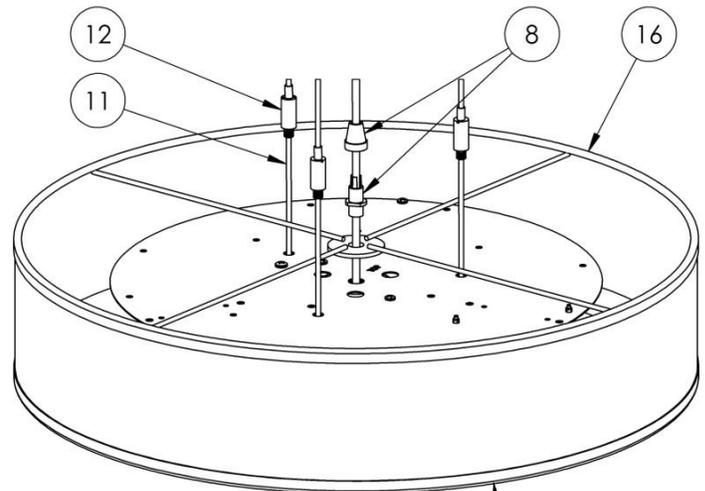

FIG 3
- Feed the three aircraft cables (11) to the connectors (12) that are mounted on the pan. Insert the cable by pressing the “Spring Pin” (12) (Fig. 3) downward and holding until it comes out at the other end. Repeat these steps for the other cables.
D. Line up the two holes in the canopy (6) with the two screws in the round mounting bracket (2). Secure fixture to screws (1) with the two thumb ball nuts (7) provided.
4. Adjusting Fixture Height (Fig 3)
A. Adjust the aircraft cables up and down by pressing the “Spring Pin” (12) downward and holding until the proper cable length is attained
5. Mounting Diffuser (Fig 3, 4 & 5)
A. Inner diffuser (16) is assembled with strain relief fittings (8) and is part of the fixture assembly to be mounted.